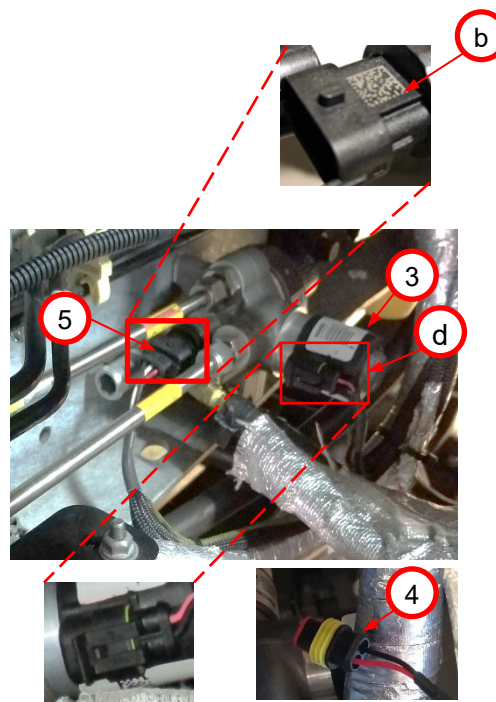

Figure 10.
5. Connect fuel system chassis harness 3-pin connector (5) to pressure transducer connector (b) and chassis harness 2-pin connector (4) to supply solenoid connector (d) on pressure regulator (3). *Figure 10*